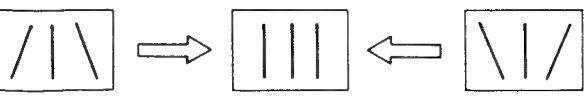

Fig. 29-5
- Adjust SIDE PIN TILT by turning DA board RV19 as shown in Fig. 29-5.